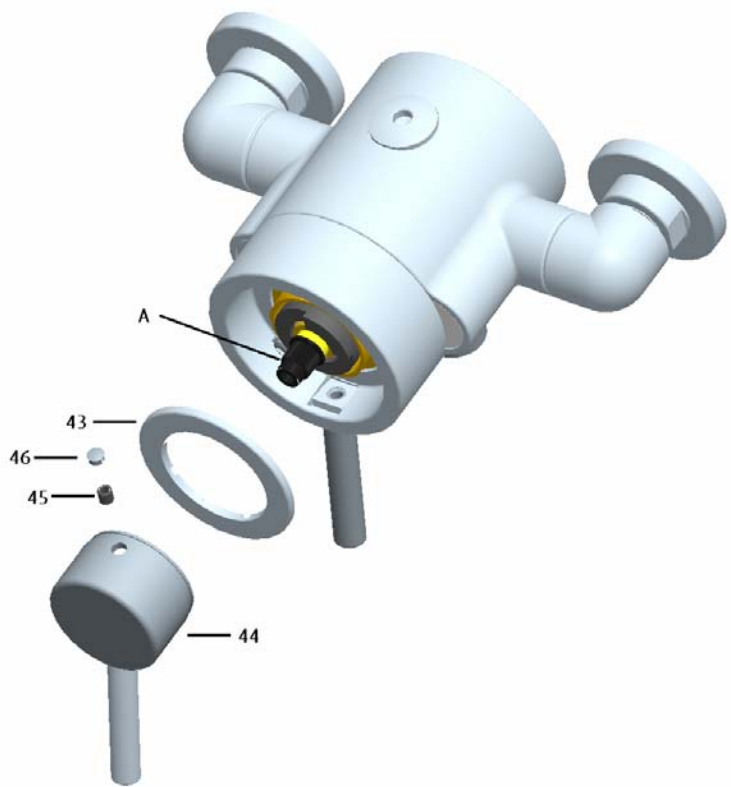

Fig. 4
5.4 See Fig. 4 below, remove the temperature control handle and shroud (44 & 43) by removing the cap (46), loosening the grub screw (45) and pulling the handle and shroud (44 & 43) off the spindle (A).